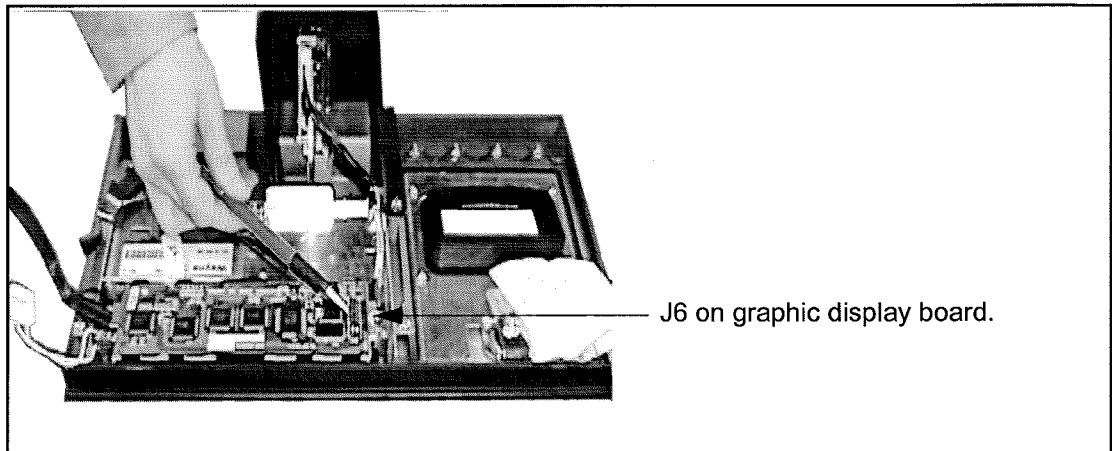

Figure B-8 J6 Location
3. Press down gently on J6 to seat the board. See Figure B-8 for J6 location.